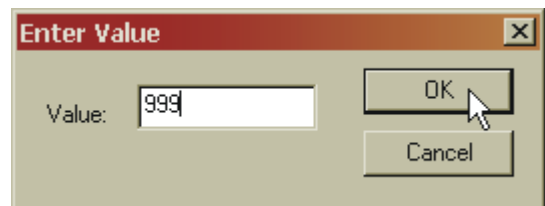

FIG. 179: HARDY MODBUS-LINK/ENTER VALUE DISPLAY/ENTERING 999
Step 11. Enter a new number. We entered "999". (See Fig. 179)